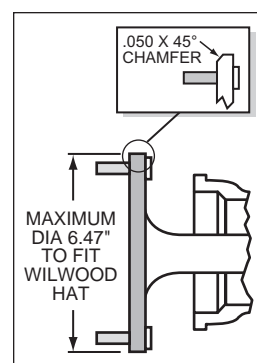

Figure 5. Axle Flange Maximum Dimension
- Maximum axle flange diameter must be no larger than 6.47" w/.050" x 45° chamfer (see Figure 5, right).